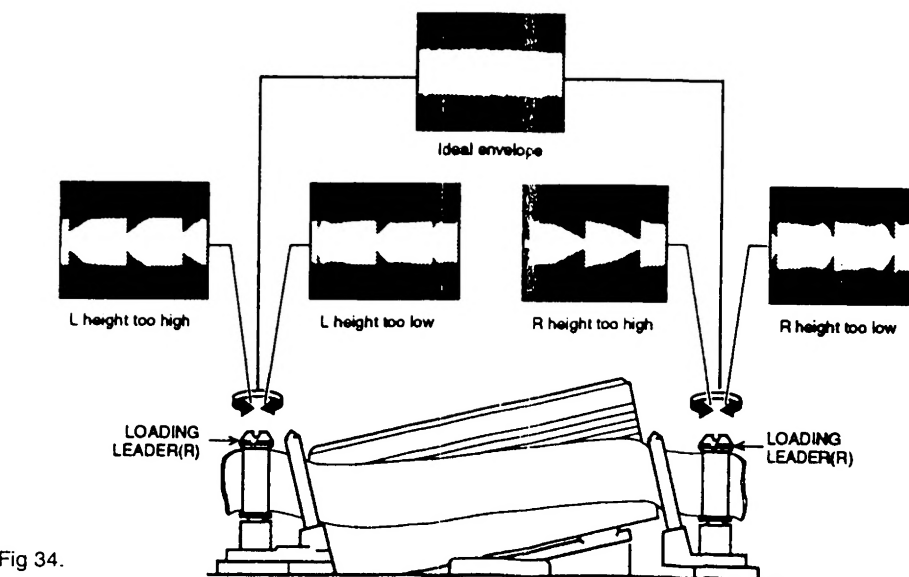

Fig 34.
- 3: Adjust the (B) screw to obtain the maximum audio output.
- 4: Turn the LOADING LEADER heads with a flat head (-) screw driver to obtain a flat RF envelope as the ideal envelope, as shown in Fig 34.